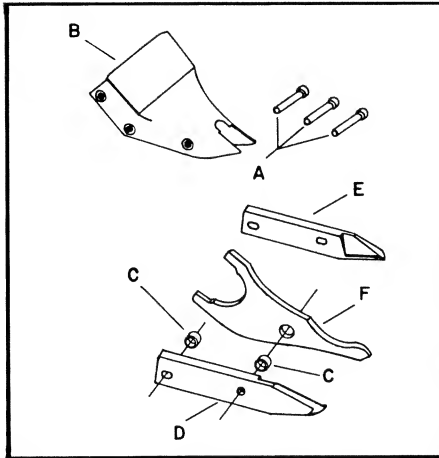

Fig. 3
Remove shear head from motor by loosening three cap screws (A) Fig. 3 and pulling head firmly forward. Slight twisting action may be required if head does not slide off easily.
Install cutter blades into shear housing (B) Fig. 3, by placing the side knife and side spacer into position in the shear housing. Insert center cap screw (A) through side knife and side spacer with rear spacer bushing (C) between them and start cap screw into thread just enough to hold blades in place. **DO NOT TIGHTEN**. Insert spacer bushing (C) into hole in center blade and lubricate with bearing grease. Install center blade into shear housing by tapping blade gently forward using a drift to line up hole in center blade with forward holes in housing. Insert and tighten forward cap screw (A) making sure spacer bushing (C) in center blade stays in position. Apply bearing grease to yoke in center blade where it rides on the eccentric bearing assembly. Insert rear cap screw (A) into shear housing but do not completely tighten.